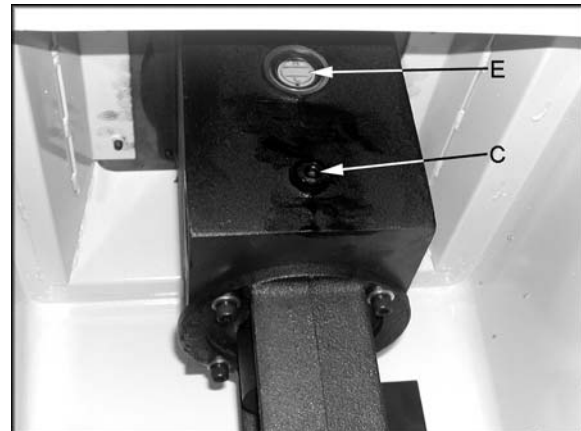

Figure 8
1. Open the door on the back side of the machine to access the drain plug (C, Figure 8). Use a 6mm hex wrench to remove the drain plug.
3. The oil sight glass (E, Figure 8) should read between the "high" and "low" marks.